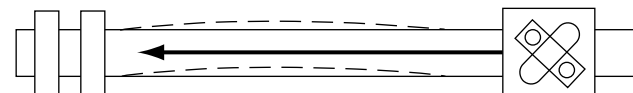

Figure 3
**Compression Loads** — Those loads where the force pushes on the bearing and its support. (Refer to Figure 3.) Compression loads tend to cause the screw shaft to bend. This normally requires a ball screw with a larger diameter than one for tension loading only. The four end fixity drawings (E, F, G, and H) show the bearing configurations for supporting a shaft subject to compression loads. The selection chart for Compression Load vs. Length, on page 54, shows these same configurations at the bottom of the chart and factors in their effect on the unsupported length of the screw for compression loads.